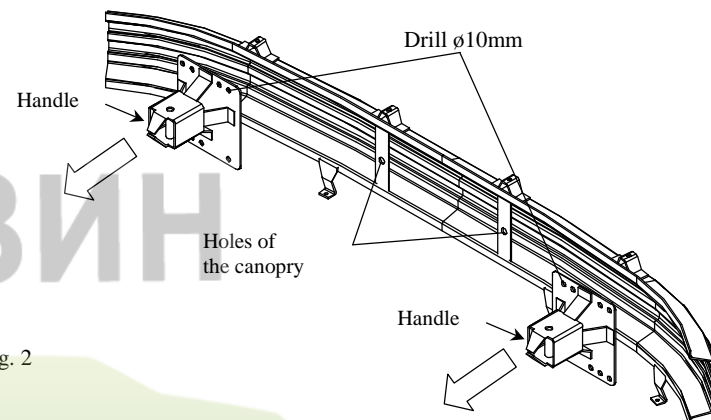

Fig. 2
1. Disassemble the bumper and metal canopy. From the metal canopy one ought to separate handles, therefore one ought to drill holes $\phi 10\text{mm}$ in points of the pressure welding, as showed on the fig. 2. Fix the canopy to the bumper after separating the handles.